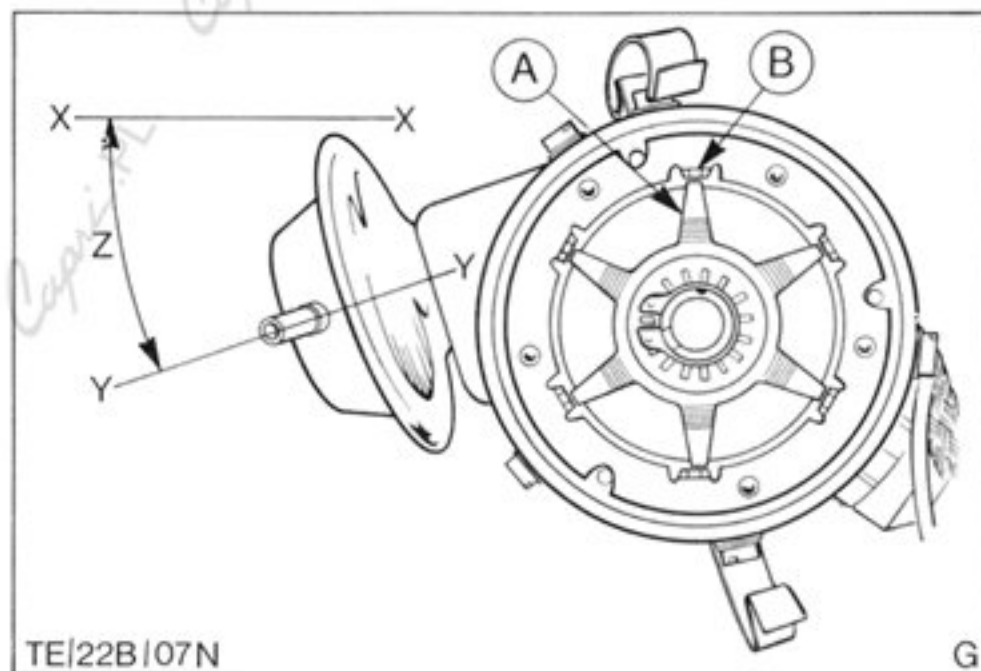

Fig.37. Trigger wheel arms lined up with stator arms.
- (d) Using Tool No. 21-079 loosen distributor clamp bolt and rotate complete distributor assembly so that the trigger wheel arms and stator arms line up correctly, Fig.37.
NOTE: Angle 'Z' in Fig.37, between rear face of block (line XX) and distributor diaphragm axis (line YY), should be 0° to 14° in an anti-clockwise direction.